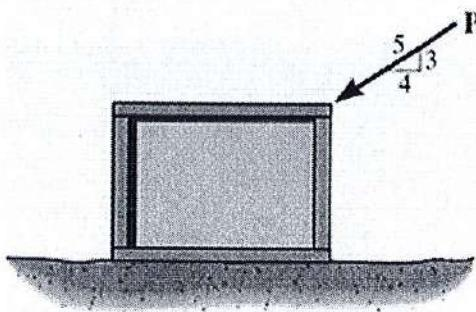

Figure 2b/ Rajah 2b
- b) Determine the friction developed between the 50 kg crate and the ground in the **Figure 2b** if;